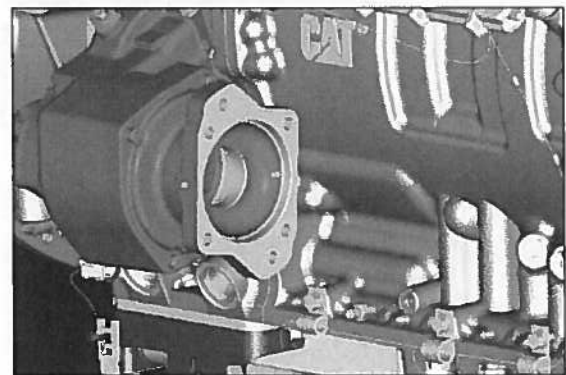

Fig. 28
6. Install the remaining capscrews. Torque them to 37-44 lbs-ft [50-60 Nm] (Fig. 28).